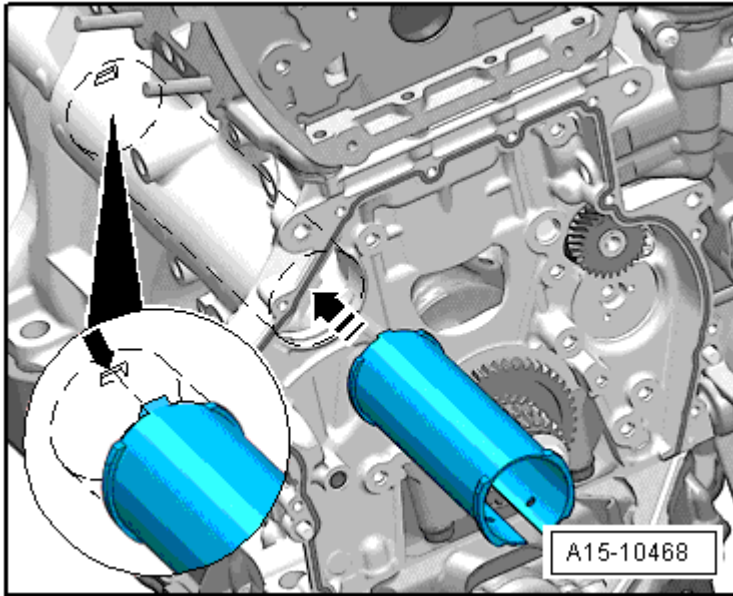

Fig. 13: Identifying Pipe For Balance Shaft - Installation Position
- Installed position, refer to **Fig. 13**.